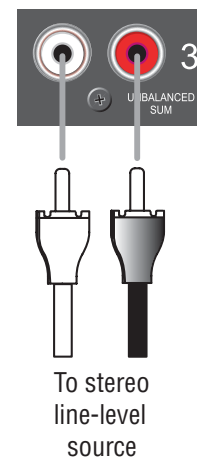

Figure 2.4 Dual RCA Input Connectors
- **Dual RCA Input Connector:** For stereo music signals, unbalanced, summed together, two connectors per input for inputs 1, 2 and 3 (Figure 2.4).